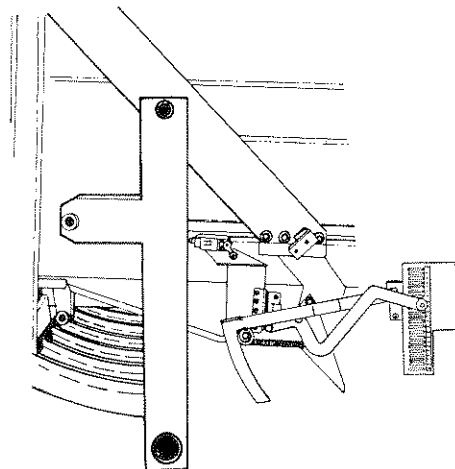

Fig. 59
4. Slowly reverse the knotter with the remote control cable until the needle yoke is at mid-stroke, see Fig. 59.